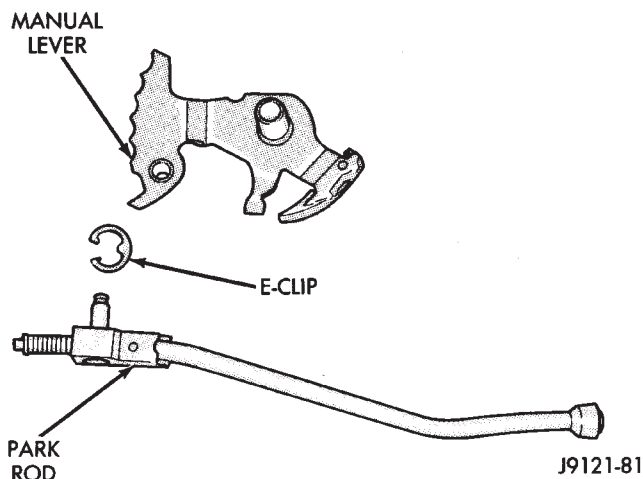

Fig. 76 Park Rod
(17) Remove park rod E-clip and separate rod from manual lever (Fig. 76).